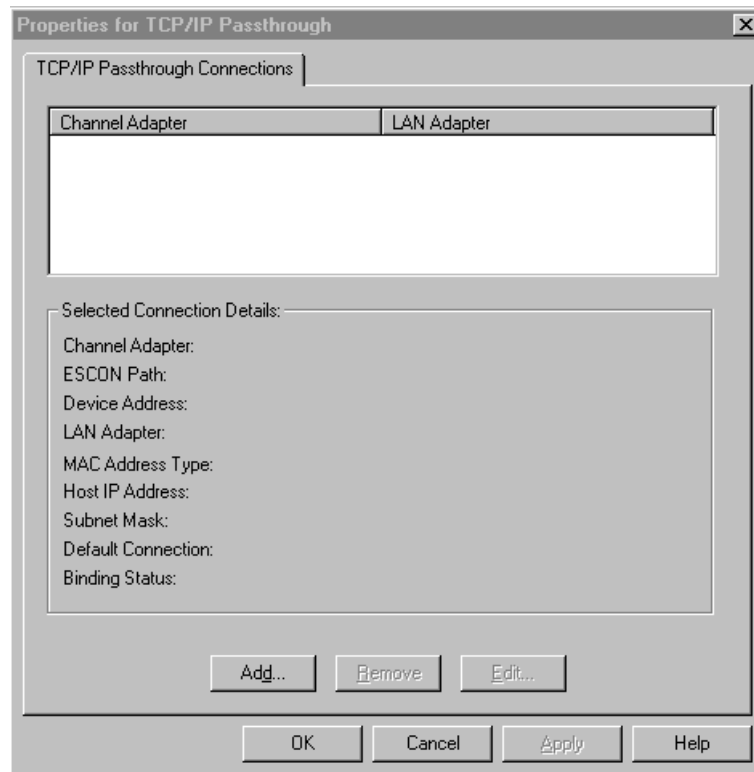

Figure 9-9. TCP/IP Passthrough Configuration
9. Click **Close** to end the installation. The system will begin updating the network bindings. Since TCP/IP Passthrough has not been configured the update will be paused for you to configure TCP/IP Passthrough. The TCP/IP Passthrough properties screen will display (Figure 9-9).